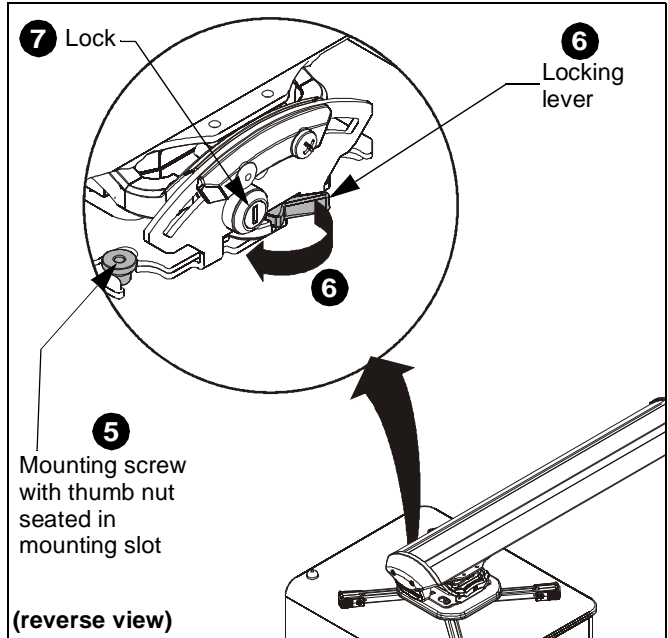

Figure 17
5. Verify mounting screws are properly seated in mounting slots in projector mount. (See Figure 17)
6. Move locking lever to "locked" position. (See Figure 17)
7. Insert key into lock and turn to secure projector to mount. (See Figure 17)